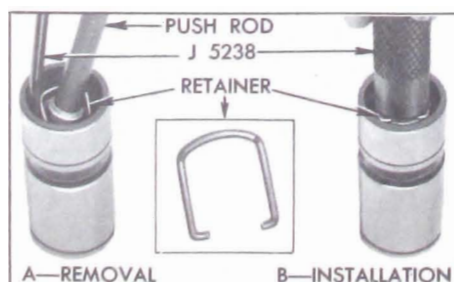

Figure 2-21—Removing and Installing Plunger Retainer
1. Disassemble each valve lifter by using a push rod to hold down the push rod seat while removing the plunger retainer from the lifter body, using Retainer Remover J-5238. See Figure 2-21, View A. Remove push rod seat and plunger from lifter body.
3. Rinse push rod seat and plunger retainer, place these parts in end of body and depress with handle of Remover J-5238 until retainer engages groove in body. See Figure 2-21, View B.